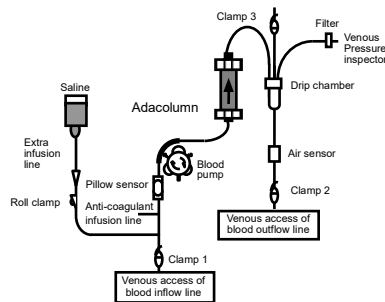

Fig.3
- 2) Connect the blood inflow line and the blood outflow line to the venous access established above (Fig.3). Alternatively, it is possible to connect the blood outflow line to the venous access only when the blood reaches the end of the blood outflow line.